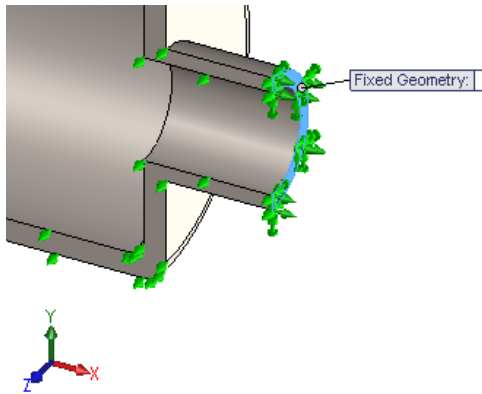

Figure 3 – The Fixed Geometry restraint added to the attachment surface associated with a rigid pipe connection.
- Zoom in on the right end surface of the pipe extension, shown in Fig. 3, and click to select it. Fixed restraints symbols in the X, Y, and Z directions are added to the model.